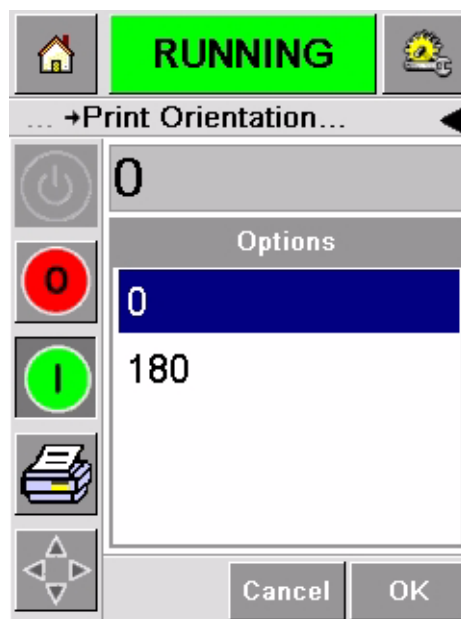

Figure 4-17: Print Orientation Settings
- 4 Touch the Print Orientation bar to open the print orientation settings page (Figure 4-17 on page 4-15).